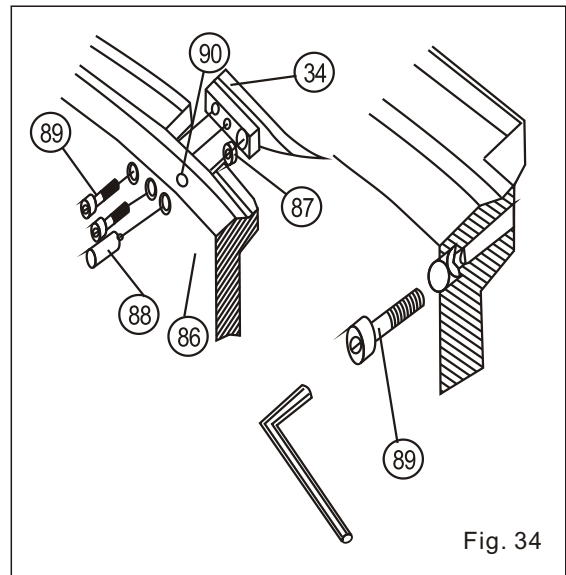

Fig. 34
(1) Remove the thread loading disc (No. 86 in Fig. 34) and fixing disc to make sure of no end clearance at the shaft. Take the lower thread hook off from the thread loading disc. Note that when taking off the lower thread hook (No. 34 in Fig. 34) from the disc, don't let the bearing (No. 87 in Fig. 34) fall off. Take off the bearing pin (No. 88 in Fig. 34) and clean it. Check the lower thread hook (No. 34 in Fig. 34) and clean it, and polish all the surfaces that will be in contact with the thread, as indicated in Fig. 34.
(1) Use soft wiper to clean away the marks and burrs. If it is inappropriate to use soft wiper, polish with a rubbing stone. Put the lower thread hook to the thread loading disc, and fixed by the screw (No. 89 in Fig. 34). Place bearing pin (No. 88 in Fig. 34) and bearing into the hole of lower thread hook, and then screw down the fastening screws (No. 89 and 90 in Fig. 34).
To carry out this adjustment, it is needed to check bolt (No. 88 in Fig. 34) and bearing (No. 87 in Fig. 34). After the height of needle bar has been completely adjusted, lock the lower thread hook into the thread loading disc.